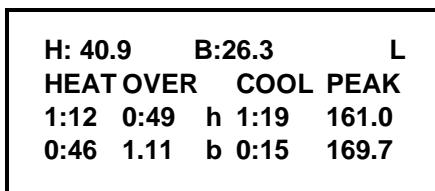

Figure 59
Hopper and barrel temperature records for each side of the freezer are displayed in the second and third screens. The second screen shows the left side (L) side of the freezer. (See Figure 59.)